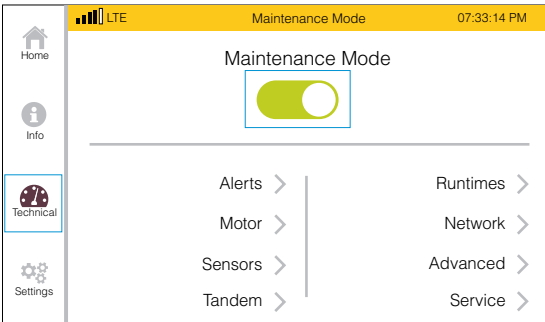

FIGURE 63. ENABLE MAINTENANCE MODE
1. On the control panel LCD display, go to the Technical screen. Press and enable **MAINTENANCE MODE** (FIGURE 63).